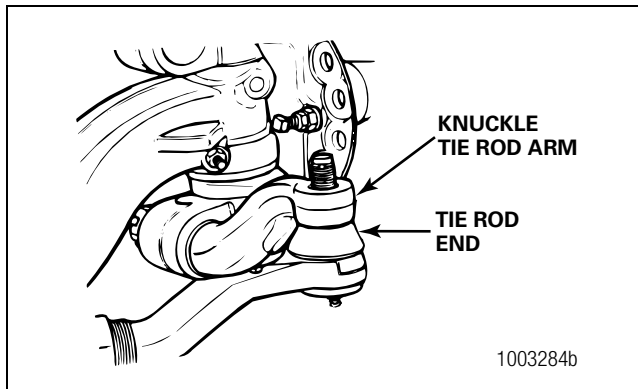

Figure 6.39
1. Press the key into the slot in the arm. Install the tie rod arm into the knuckle. Figure 6.39.